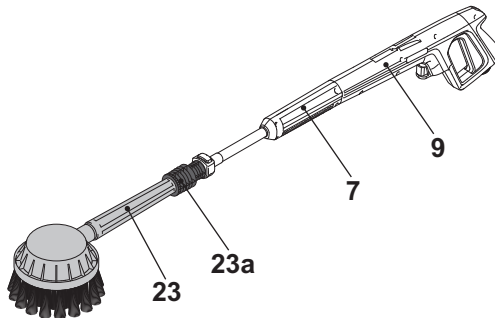

Fig. 11
1. Attach the extension lance (7) onto the spray gun (9) (Fig. 11).
2. Attach the rotary brush (23) onto the extension lance.